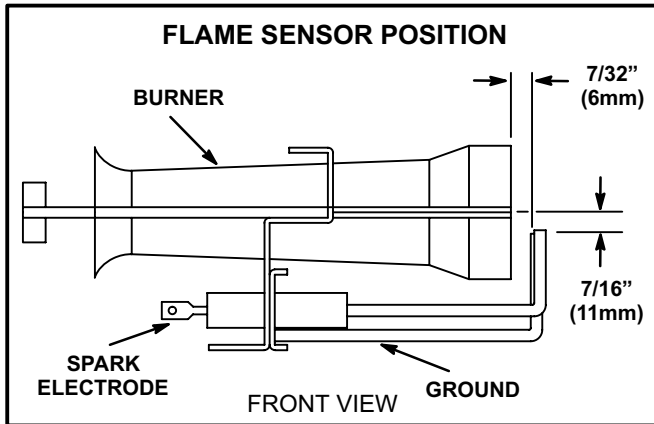

FIGURE 21
- 3- Remove the right burner and check the alignment of the ignition sensor. See figure 21.